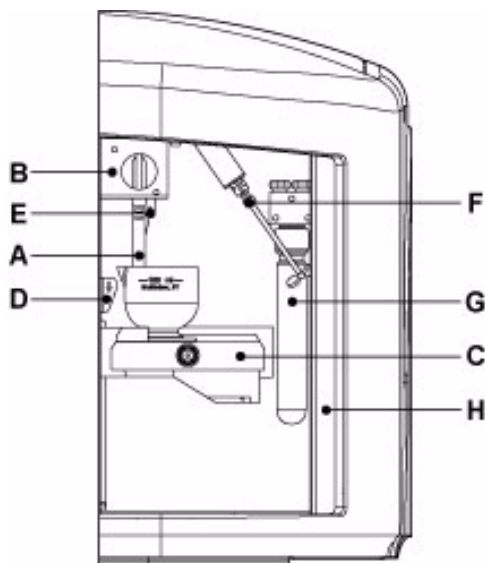

Figure 1.4 Sample Compartment
Sample Compartment components are labeled in Figure 1.4 (below).
The aperture tube, when in place, is located in the upper left corner of the Sample Compartment (Figure 1.4, A).
The aperture tube knob (Figure 1.4, B) secures the aperture tube in place. The knob is in the locked position when pointing up (12 o'clock position). To remove an aperture tube, first unlock the aperture tube knob by turning the knob in either direction until it points down (6 o'clock position).
The sample platform (Figure 1.4, C) holds a Multisizer 4 Smart Technology Beaker (ST Beaker) or Accuvette® ST. To ensure consistent results, the sample platform locks into position for analysis runs. ST Beakers and Accuvette® STs are designed to ensure optimal fluid use and circulation with the locked platform height.
The platform release is located on the left edge of the Sample Compartment, above the sample platform in its lowered position (Figure 1.4, D).
The external electrode is located in the upper left corner of the Sample Compartment, just behind or to the side of the aperture tube (Figure 1.4, E).
The stirrer is located at the top of the Sample Compartment, to the right of the aperture tube and electrode (Figure 1.4, F).
The Particle Trap is located at the far right of the Sample Compartment (Figure 1.4, G).
There are two LED status lights located at the right of the Sample Compartment, next to the Particle Trap (Figure 1.4, H).
1. Press the platform release (Figure 1.4, D) towards the back of the Sample Compartment and lower the platform to the loading position.